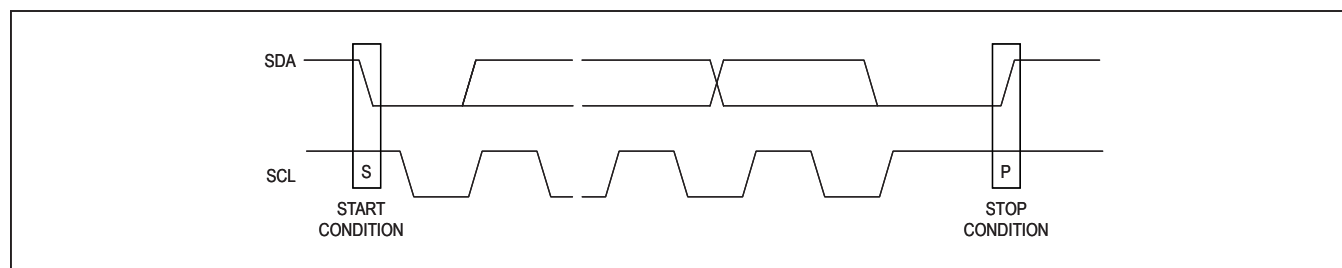
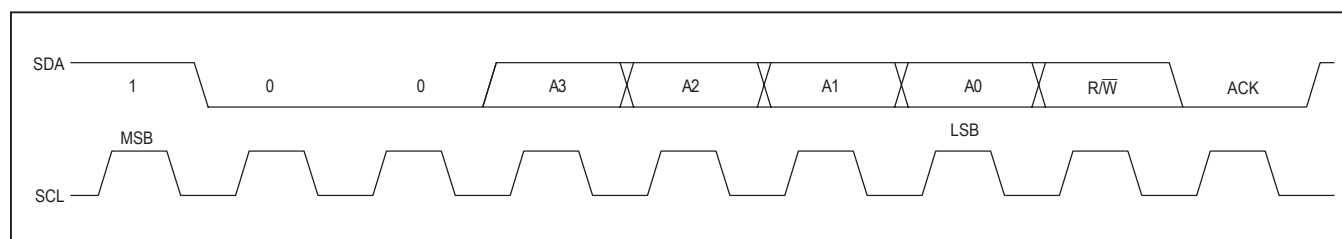

Figure 3. Standard Stop Conditions
Figure 6. Slave Address
Each transmission consists of a START condition (Figure 3) sent by a master, followed by the MAX6956 7-bit slave address plus $R/\overline{W}$ bit (Figure 6), a register address byte, one or more data bytes, and finally a STOP condition (Figure 3).
finished communicating with the slave, it issues a STOP (P) condition by transitioning SDA from low to high while SCL is high. The bus is then free for another transmission (Figure 3).
The MAX6956 has a 7-bit-long slave address (Figure 6). The eighth bit following the 7-bit slave address is the $R/\bar{W}$ bit. It is low for a write command, high for a read command.